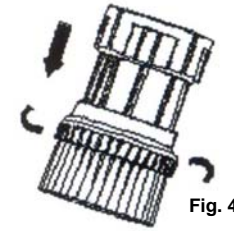

Fig. 4
3. To use the flexible hose with the dusting brush, hold the hose in one hand and with the other, pull out the dusting brush and turn counter clockwise to lock in place. (Fig. 4)